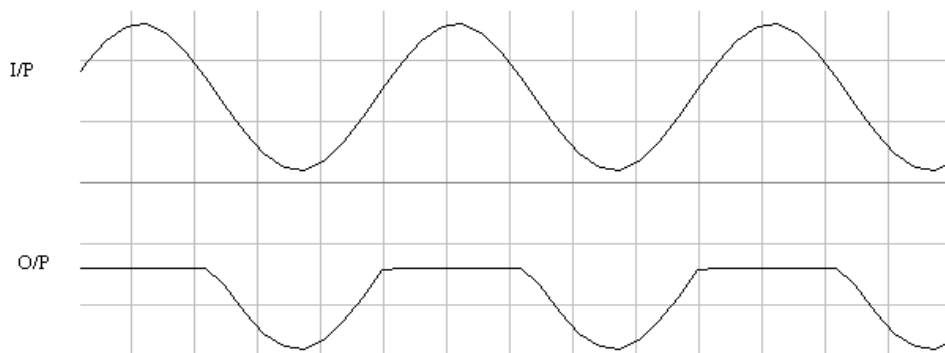

Fig. 2. Input and output waveform for positive Clipper
4. Keep the CRO in dual mode, connect the input (V_i) signal to channel 1 and output waveform (V_o) to channel 2. Observe the clipped output waveform which is as shown in fig. 2. Also record the amplitude and time data from the waveforms.